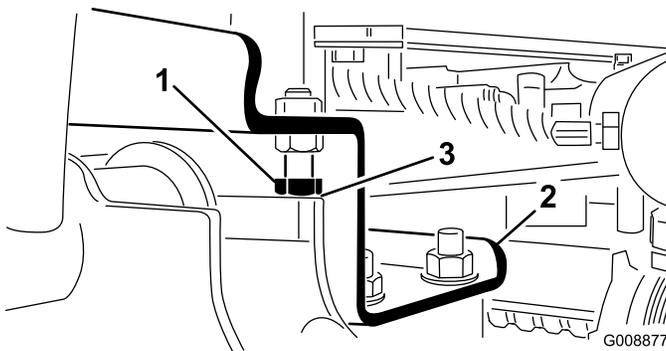

Figure 11
- A. Back off the stop bolts (Figure 11).
2. Check to make sure that the clearance between each lift arm and stop bolt is 0.005 to 0.040 inches (0.13 to 1.02 mm) (Figure 11). If the clearance is not in this range, adjust the stop bolts to attain clearance.